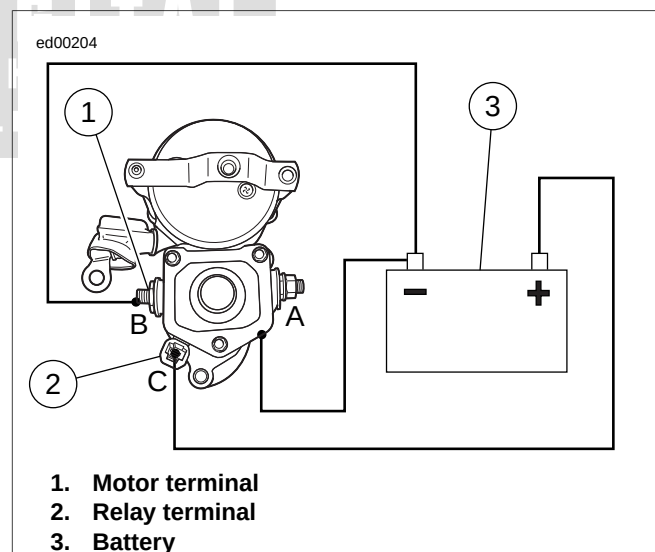

Figure 1-8. Pull-In Test
Do not disassemble solenoid. Before testing, disconnect field wire from motor terminal as shown in Figure 1-8.
- See Figure 1-8. Using a 12 volt battery, connect three separate test leads as follows: